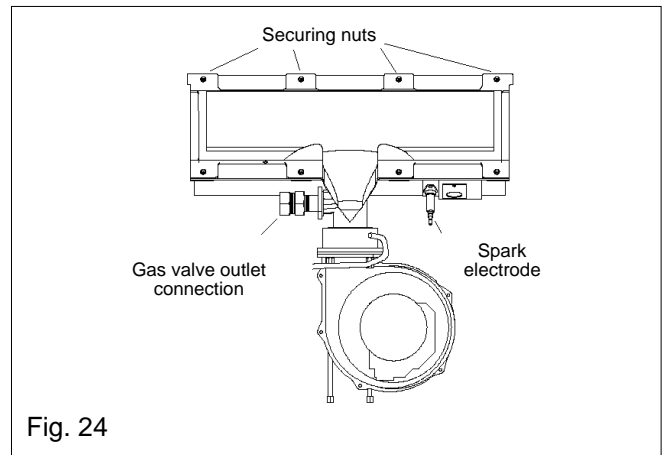

Fig. 24
6.13 BURNER (see fig. 24)
6.14 ELECTRODE (see fig. 24 & 25)